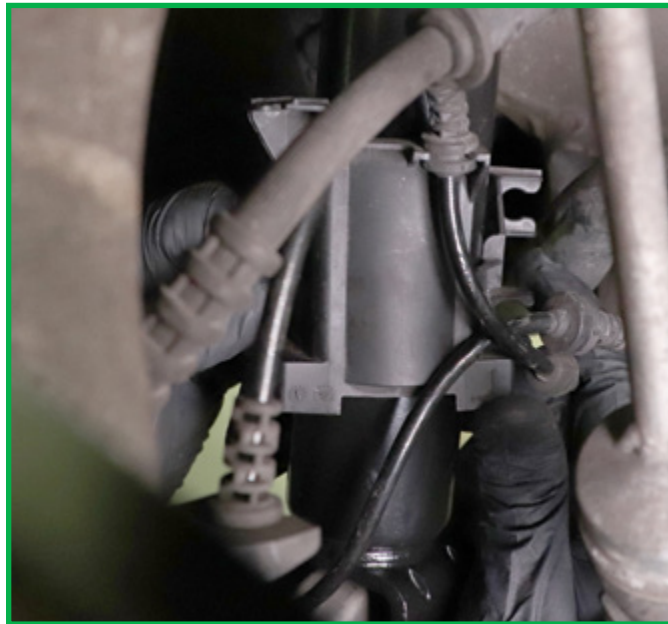

FIGURE 26
7. Reinstall the strut wire harness using the provided zip tie and reroute the lines. (Figures 26)